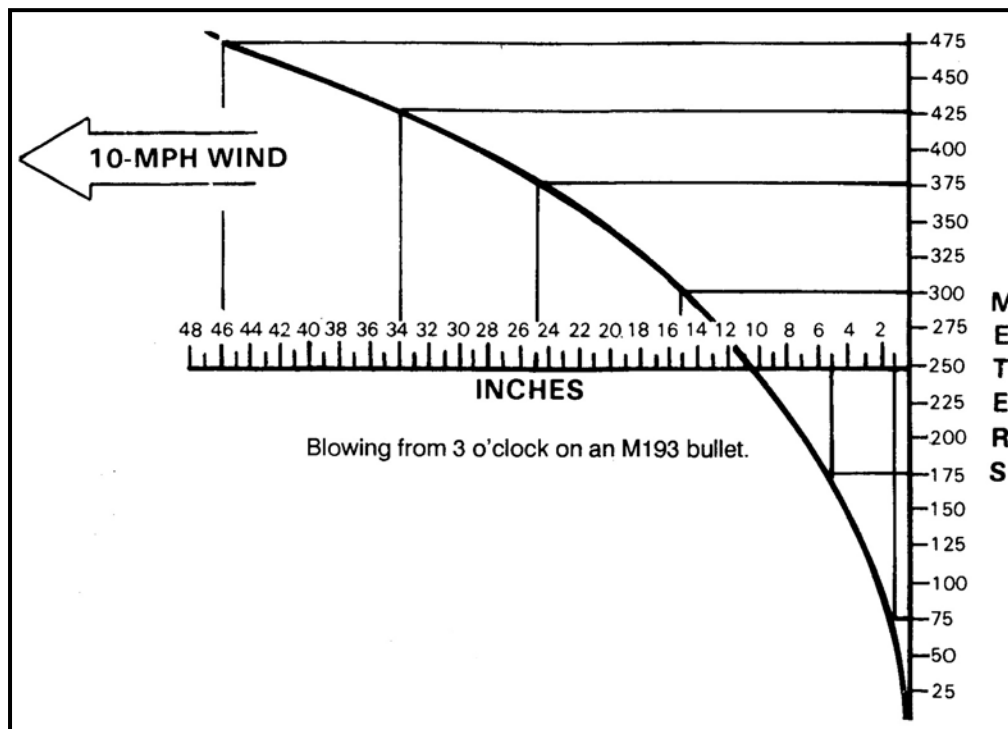

Figure 7-40. Windage effects of a 10-mph crosswind.
(2) **Windage.** When firing during windy conditions and there is no time to make sight adjustments, the SDM must use hold-off to adjust for windage (Figure 7-40, page 7-56). When holding off, the SDM aims into the wind. If the wind is moving from the right to left, his point of aim is to the right. If the wind is moving from left to right, his point of aim is to the left. Constant practice in wind estimation can bring about proficiency in making sight adjustments or learning to apply hold-off correctly. If the SDM misses the target and the point of impact of the round is observed, he notes the lateral distance of his error and re-fires, holding off that distance in the opposite direction. Table 7-10, page 7-56, shows calculated adjusted aiming points based on wind speed.